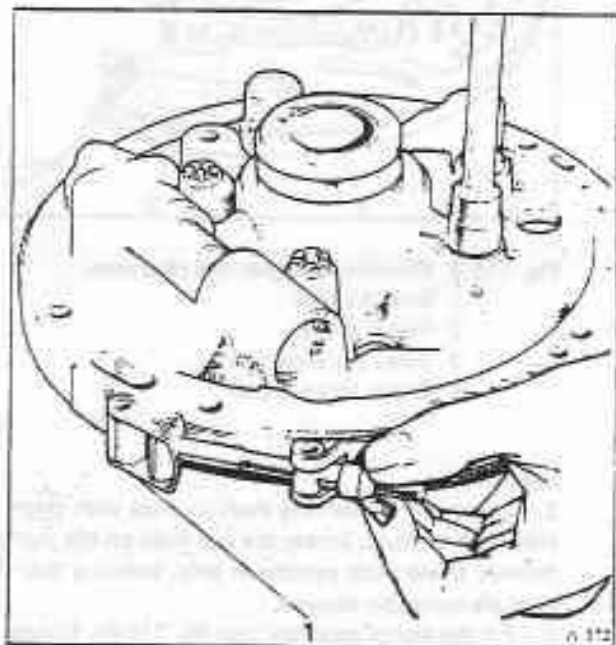

Fig. T16-7 Aligning pump cover with pump body
10. Fit the pump body and cover alignment band (J-21368) around the pump assembly. Tighten the band to align the cover with the body (see fig. T16-7).